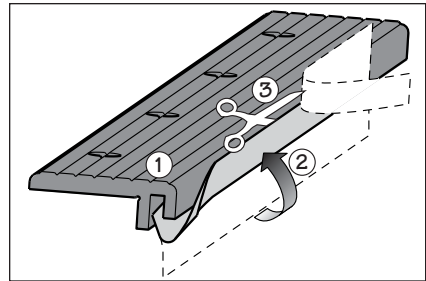

Figure 9: Lining the traveller hook with UHMW tape.
1. Remove the tape backing and stick it to the inner hook of the traveller as illustrated in **Figure 9**. Be sure that it is well adhered.